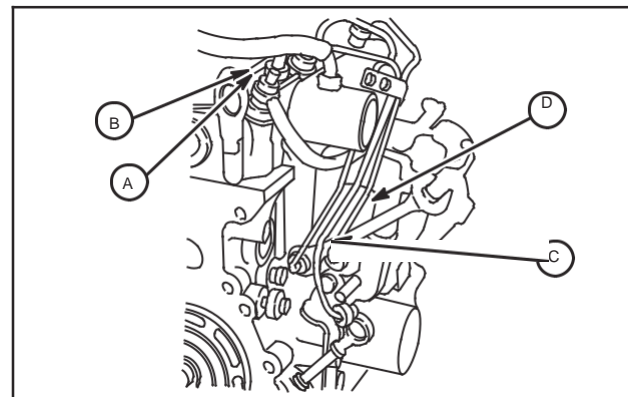

Fig. 6 – Remove Fuel Delivery Lines
1. Remove the following parts, Fig. 6.